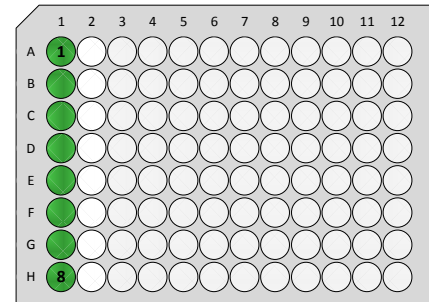

Figure 2. Input DNA fragment and vector loading plate map for 8 reaction kits. (Golden Gate and Gibson Assembly share the same well) positions).
- Load input DNA in the appropriate wells depending on the number of reactions in your kit (Figures 2 and 3). Mix by pipetting gently 3-4 times.
2. Spin the filled DNA input plate for one (1) minute at 1,000g to remove any bubbles and collect all the liquid at the bottom of the wells before use.